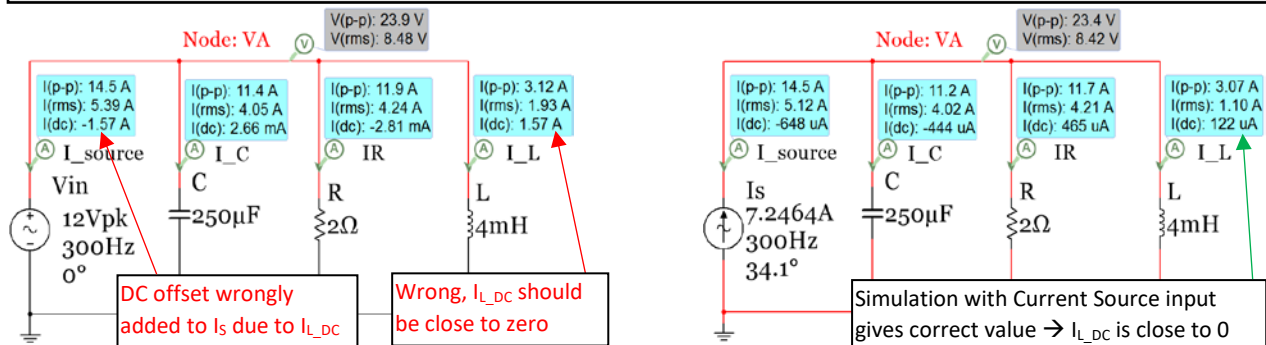
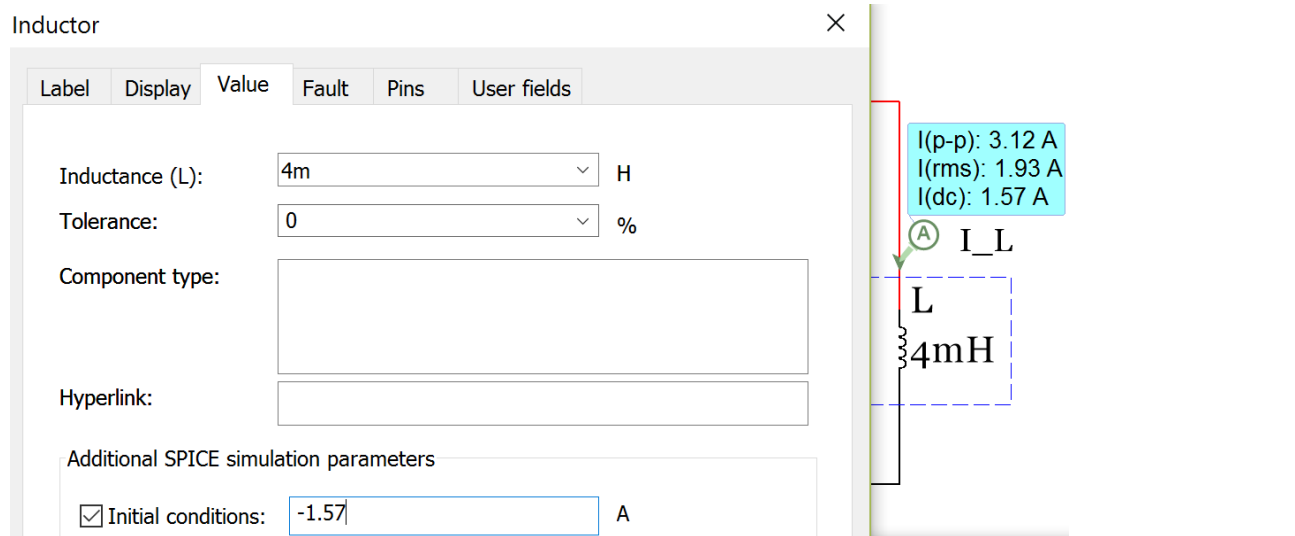
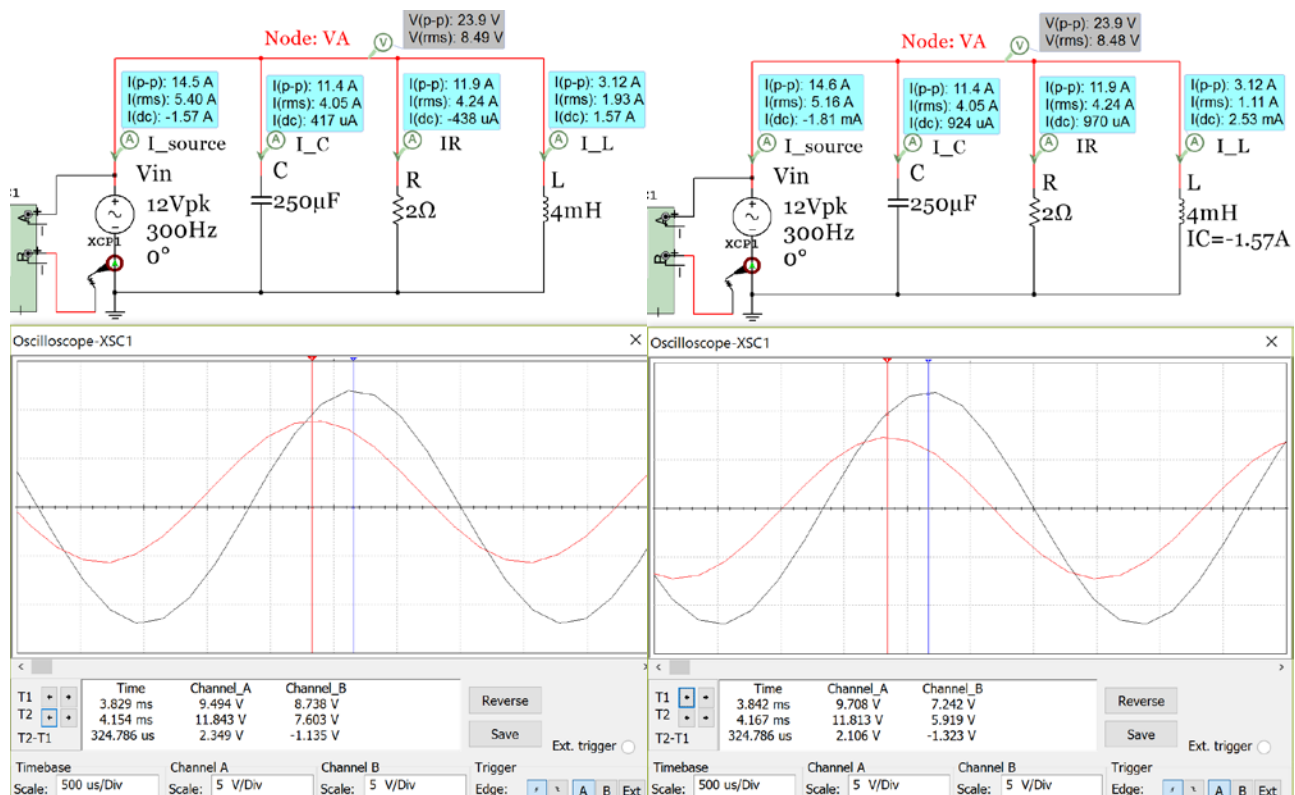

Figure 3.14: Parallel circuit in Example 3.7 with AC Voltage source (Left) and AC Current Source (Right).
Figure 3.15: Inductor dialogue box to enter the DC offset as the initial condition.
Figure 3.16: Parallel RLC circuit from Example 3.7 – Phase Verification in Multisim.
The reason the RMS I_s and I_L don't match the calculations is due to the DC offset that is wrongly included in the simulation as shown in Figure 3.14 (this link gives more info). Here are a few options to avoid this error.
- Calculate I_s and use a current source instead of a voltage source. There is no DC offset in Figure 3.14.
All of the voltages and currents have been calculated above and the magnitudes were verified in Multisim. To verify the phase the oscilloscope is needed. To remove the DC offset of the inductor, method 3 described in Figure 3.14 will be used. Figure 3.15 shows the dialog that comes up when you double click on the inductor. Since the DC offset was measured to be 1.57A, a value of -1.57A is entered into the initial condition box to correct for the DC offset. Figure 3.16 (Left) shows the plot of V_{in} and I_S for the initial circuit without modifying the initial condition of the inductor. Due the DC offset the peak value of I_S is measured to be 8.738 A which is about 1.5 A higher than the calculated value of I_{S_pk} (7.2464 A). In the right plot of Figure 3.16 the initial condition of the inductor is included and the DC offset is removed from both I_L and I_S .
The time shift, t_s , in Figure 3.16 is measured to be - 0.324786 ms (t_s is negative because its sinusoidal cycle starts before V_{in}). The phase of I_s is calculated below and matches the calculated value (**34.1°**) fairly closely.
- Even though the ELI the ICE man pneumatic doesn't apply to parallel circuits it DOES apply once the total impedance is determined and you want to compare the source current to the input voltage. In this example I_s LEADS V_{in} (ICE) because the total impedance phase angle is in quadrant IV (-34.1°). This is verified in Figure 3.16.